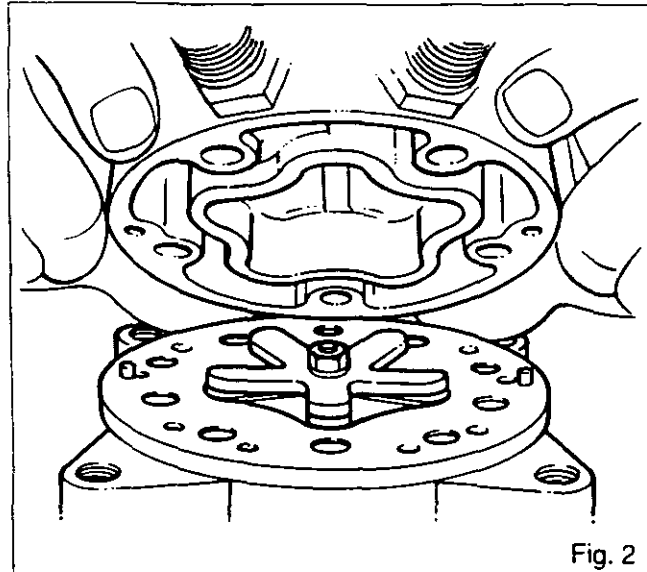

Fig. 2
- 2) The head connectors must face upwards or be in line with the oil filler hole (Fig. 2).